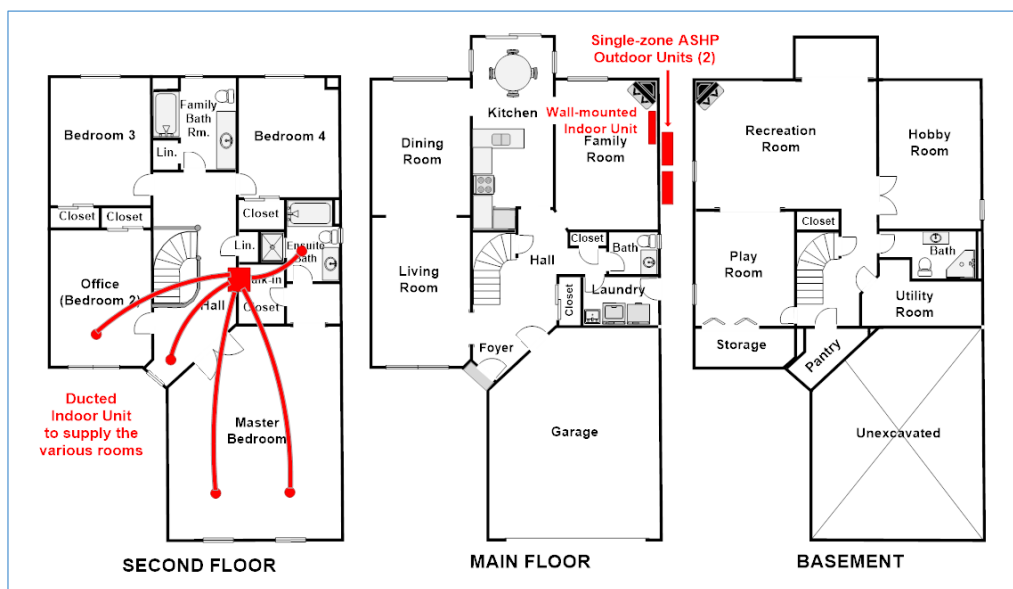

Figure 10: Type and location of the Indoor units in the two Targeted Areas
- The second-floor area will use a compact ducted unit (Option 2D) installed in the attic space near the attic access hatch and will be ducted to the various rooms as shown in Figure 10.